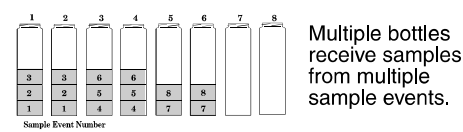

Figure 2-1 Sample Distribution Diagrams
6. Enter the Sample Distribution settings. The first display of the Sample Distribution section asks if you want to multiplex samples. Select no for sequential sampling; the sampler will then prompt you for the Sample Volume settings. Select Yes for multiplexed sampling. The next display will prompt you to select either Bottles Per Sample or Samples Per Bottle. See Figure 2-1 for multiplexing types.